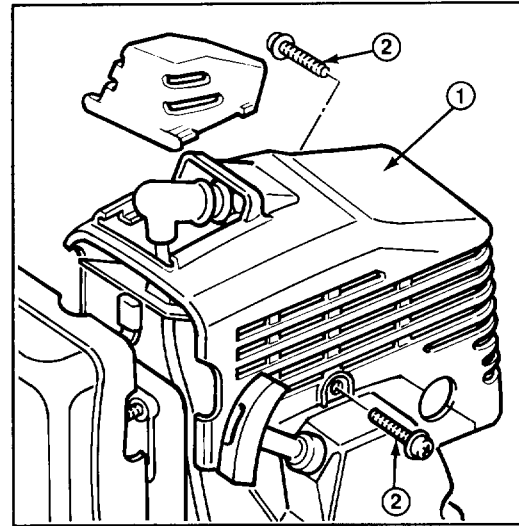

Figure 13
SERVICING MUFFLER (Fig. 13 & 14)
1. Remove two (2) screws securing muffler cover to trimmer (Fig. 13).